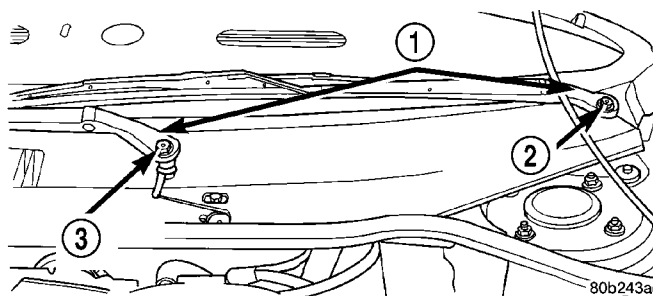
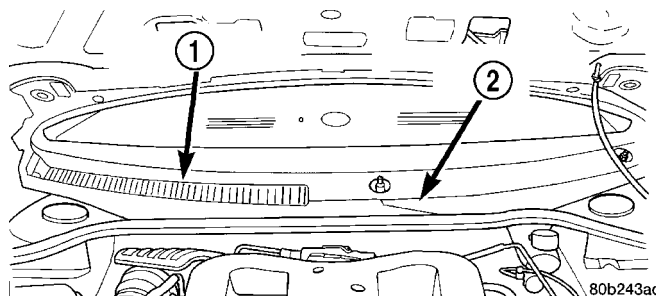

Fig. 75 Wiper Arm Attachment To Pivot
Fig. 76 Wiper Module And Cowl Cover
(2) Remove caps from both wiper arms at the attachment to the pivots to expose the wiper arm attaching nut. Remove the nut attaching each wiper arm to its pivot (Fig. 75).
(3) Remove the wiper arms from the pivots. Wiper arms are removed from the pivots by rocking them back and force on the pivots until they can be pulled off the pivots.
(4) Remove the wiper module cover and cowl cover (Fig. 76) from the vehicle.
(11) Install the covers over the wiper module and the cowl (Fig. 76). Install and securely tighten the attaching screws.
(12) Reconnect the battery ground cable to the ground stud on the shock tower.
(13) Turn windshield wipers ON, then OFF, in order to park wipers in the proper position before installing wiper arms.
(14) Install the wiper arms on the pivots (Fig. 75). Install and securely tighten the wiper arm to pivot attaching nuts. Install the caps on the wiper arms covering the pivot nuts.
(15) Verify proper operation of the power brake booster and brake system.